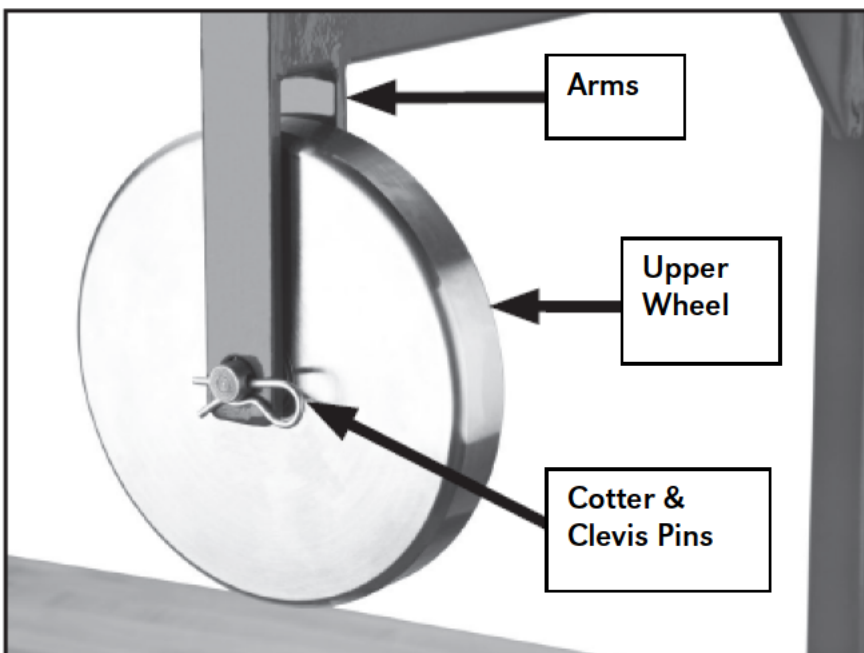

Figure 8. Upper wheel installed.
5. Position the upper wheel between the frame arms, insert the upper wheel clevis pin through the arms and wheel, and secure the pin with the hairpin cotter pin (see Figure 8).